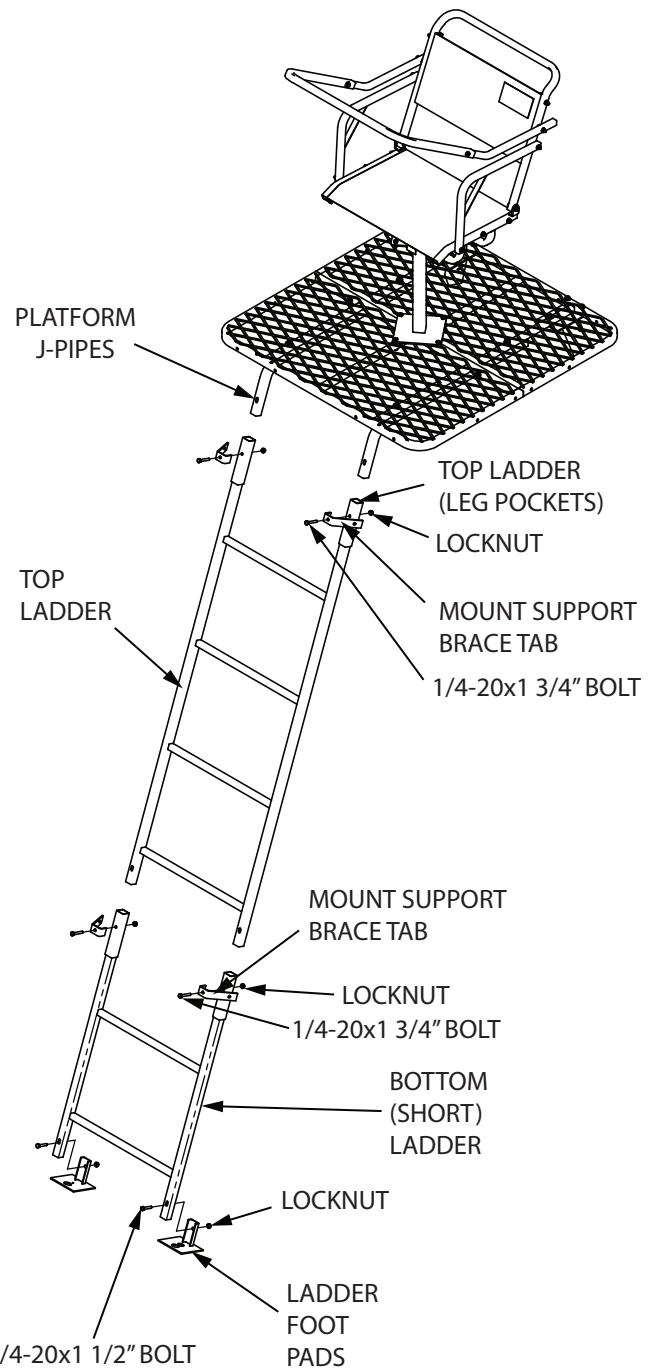

FIGURE 9
13. Attach the ladder foot pads (TP113) to the bottom (short) ladder (TP159) using (2) provided 1/4-20 x 1-1/2" bolts and locknuts. This step now makes this the bottom ladder section. **SEE FIGURE 9**
14. Insert the platform J-pipes into top ladder (SL51) and the top ladder into bottom ladder assembly. Attach (4) single mount support brace tabs (TP115) to each joint location of ladder assembly. Secure those locations using (4) 1/4-20 x 1-3/4" bolts and locknuts. **SEE FIGURE 9**